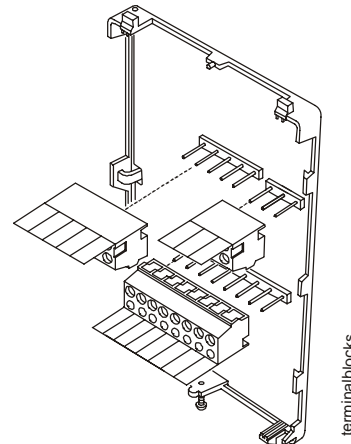

Figure 4: Removing the Screw Terminal Blocks
- Pull the pull tabs on each of the connectors and remove the screw terminal blocks as illustrated in Figure 4.